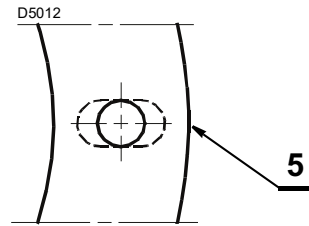

Fig. 9
- if necessary, widen the insulating gasket holes 5)(Fig. 9), taking care not to damage them.